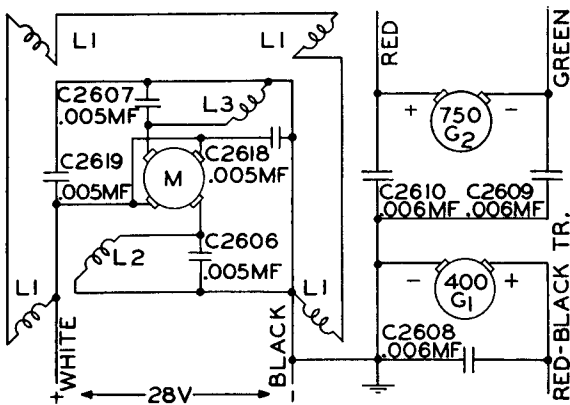

Figure 6-6. Russell Type 502 D3 COA Dynamotor Schematic
(1) Russell Type 502 D3 COA. Part No. 231 0003 00. Refer to figure 6-6.